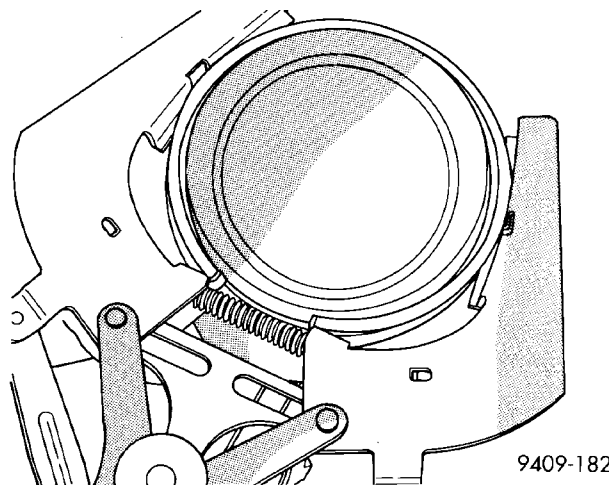

Fig. 81 Piston Rings—Removing and Installing
(1) Using a suitable ring expander, remove upper and intermediate piston rings (Fig. 81).